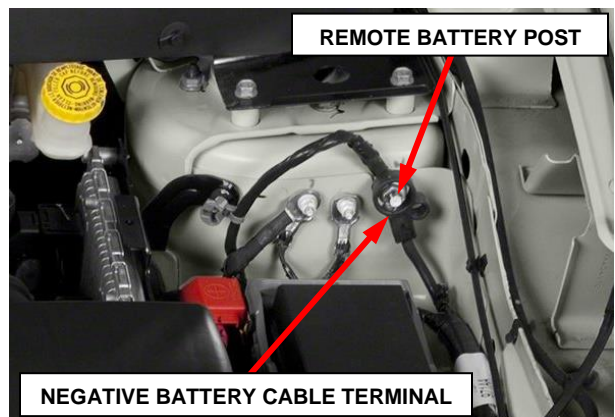

Figure 4 – JC/JS Only:
3. *(MK) Jeep Patriot, Jeep Compass and (PM) Dodge Caliber vehicles:* Disconnect and isolate the negative battery cable from the battery.
4. *(JC) Dodge Journey and (JS) Dodge Avenger, Chrysler 200 vehicles:* Disconnect and isolate the negative battery cable terminal from the remote battery post (Figure 4).
36. *(JC) Dodge Journey and (JS) Dodge Avenger, Chrysler 200 vehicles:* Connect the negative battery cable terminal to the remote battery post. Tighten the nut to 28 N·m (18 ft. lbs.) (Figure 4).
37. *(MK) Jeep Patriot, Jeep Compass and (PM) Dodge Caliber vehicles:* Connect the negative battery cable to the battery. Tighten the cable clamp nut to 5 N·m (45 in. lbs.).